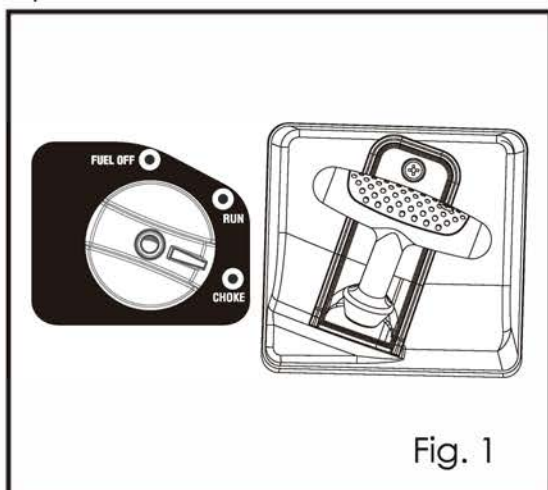

Fig. 1
- Remove the snaps retaining the air filter cover (Fig. 1).
1. Rotate the choke control / fuel switch (Fig. 1) to CHOKE.
2. Rotate the choke control / fuel switch (Fig. 1) to OFF.
- To change the oil, first remove the Maintenance Panel (Fig. 1).